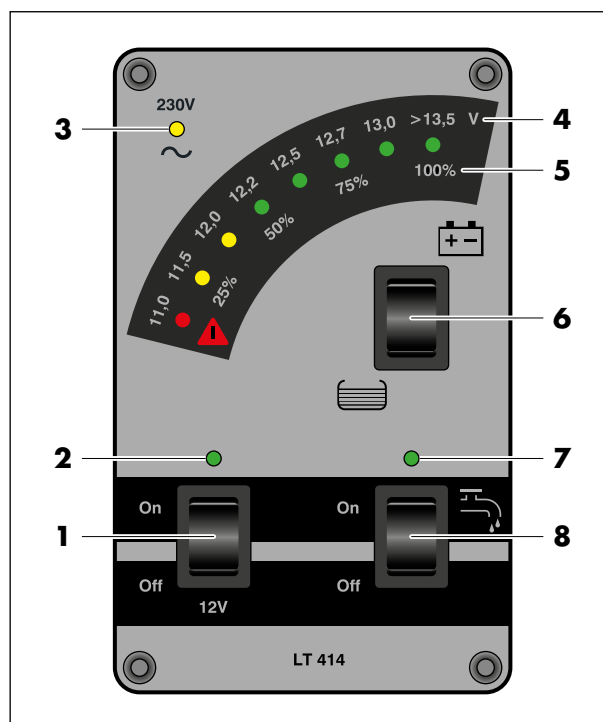

Fig. 63 LT 414 control and switch panel
To prevent the living area battery from discharging when the vehicle is left for long periods of time and no 230 volt mains voltage is applied (Fig. 63, item 3, yellow indicator not illuminated), switch off the main switch of the 12 volt system (Fig. 63, item 1) on the control and switch panel – position "Off" (Fig. 63, item 2, green indicator light extinguishes).